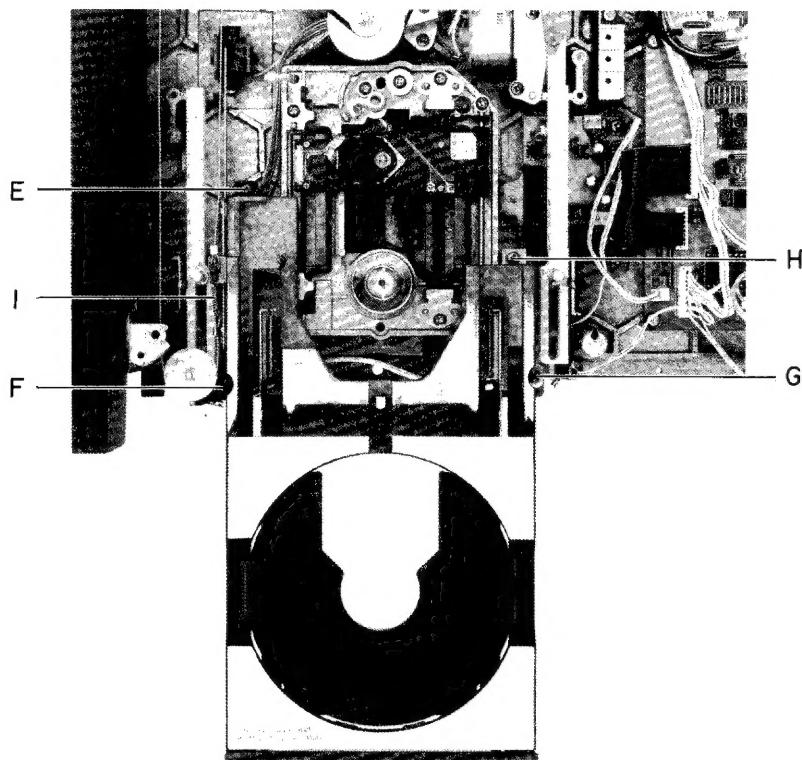

Fig. 4-3
- 5) Remove the screws E to H and joint spring I. (Refer to Fig 4-3)